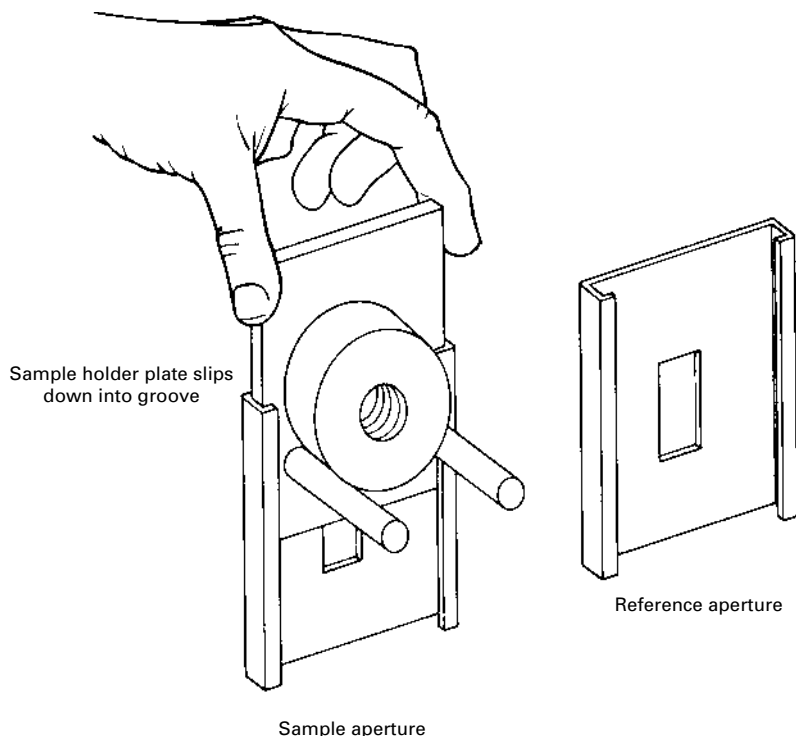

FIGURE 32.16 Putting sample holders with samples into the beam.
11. Put the card in the **sample beam aperture** (Fig. 32.16). The KBr window should be *centered* in the sample beam if you've cut and punched the card correctly.
4. Put your sample in the sample beam. Slide the sample holder with your sample into the sample beam aperture (Fig. 32.16).